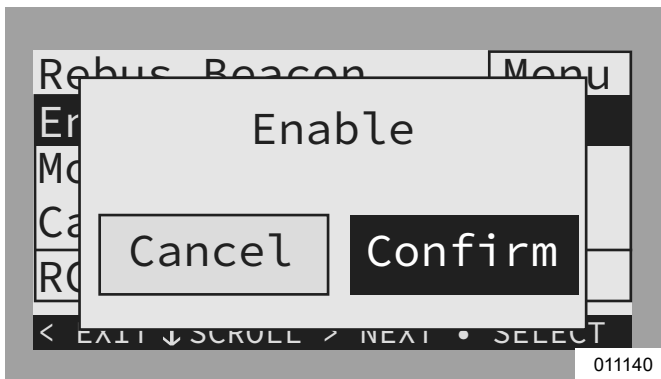

Figure 6-20. Enabling Beacon (2 of 2)
3. See Figure 6-20. Arrow right to Confirm and press the center button.